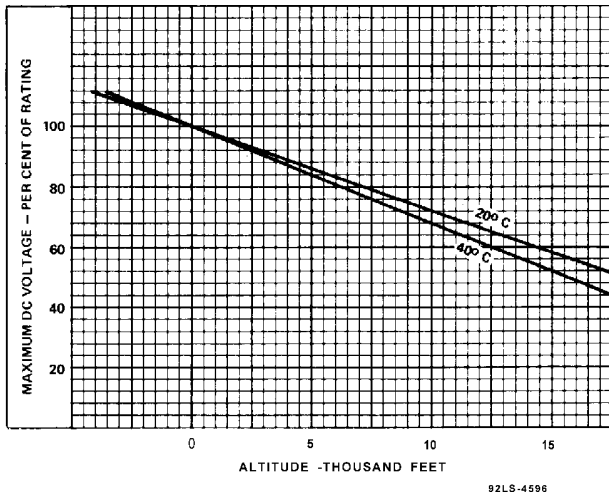

Figure 3 - Maximum DC Voltage with Respect to Altitude
10. The maximum voltage ratings must be modified for operation at altitudes higher than sea level and for temperatures in excess of 20°C in accordance with the curves of **Figure 3**.